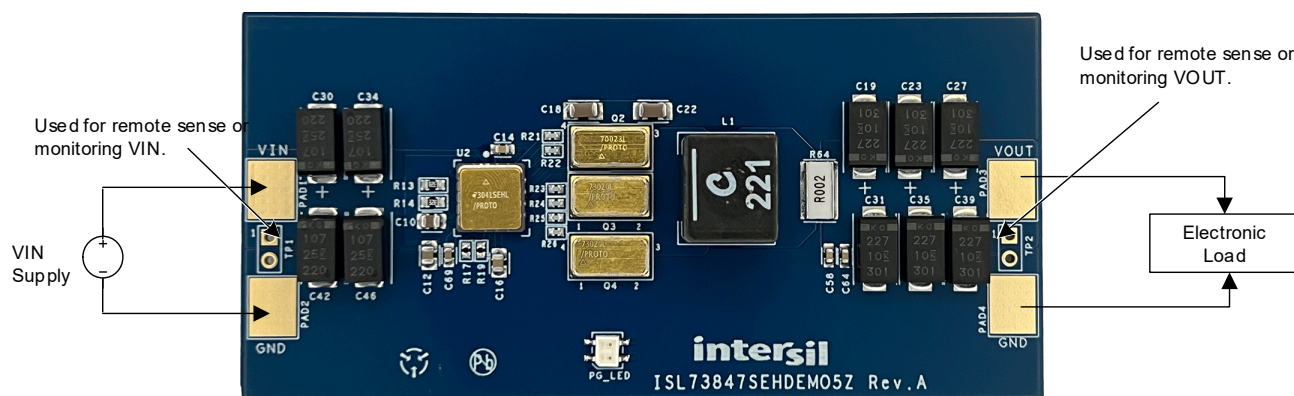

Figure 2. ISL73847SEHDEMO5Z Board Setup
1. Apply a 4.5V to 15V voltage to VIN connectors, as shown in Figure 2. To use 4w sense lines from a power supply or a voltmeter to monitor the input voltage, solder a jumper to TP1.
2. If required, a resistor or electronic load can be connected to the VOUT connectors, as shown in Figure 2. To use 4w sense lines from an electronic load, solder a jumper to TP2.